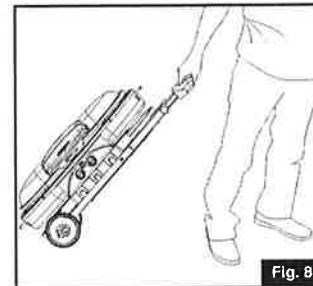

Fig. 8
- Once handle is locked in position, the grill can easily be moved to any location in your campsite or backyard. (Fig. 8)